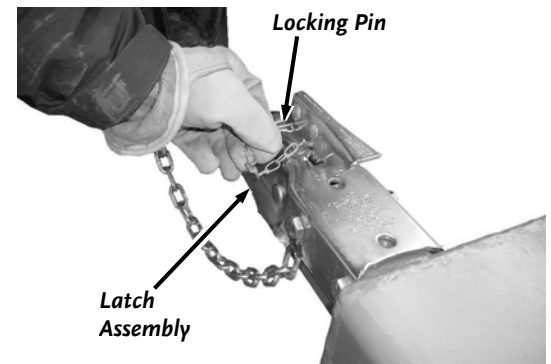

Figure 43
27. Insert the Locking Pin into the hole of the Latch Assembly to lock it in the closed position (**Figure 43**).